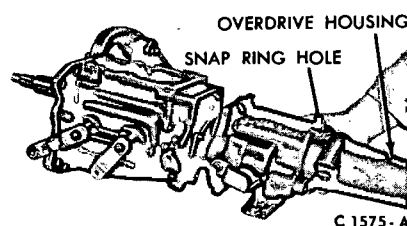

FIG. 7—Removing Overdrive Housing
housing (Fig. 7), and remove the cover.
7. Pull the overdrive control lever and shaft out as far as possible. Spread the snap ring that retains the overdrive output shaft bearing and then remove the overdrive housing (Fig. 7).